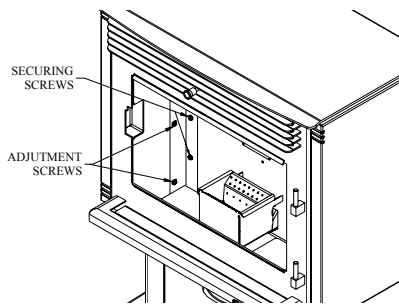
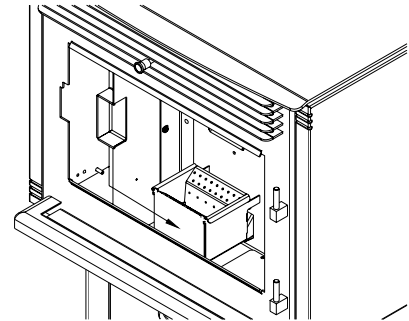
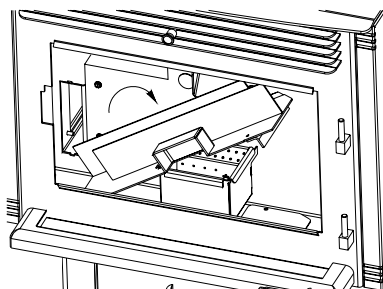

Figure 47
Figure 48
Figure 49
- c. **Chamber walls:** Periodically, you must vacuum the ashes that may have accumulated on the main walls of the combustion chamber. START BY REMOVING THE DECORATIVE MASONRY-LIKE PANELS, WHICH ARE SIMPLY HELD BY CLIPS. The use of a vacuum is necessary. There is also a cleaning outlet located behind the left side panel of the combustion chamber. Remove this panel using a screw driver. Loosen the adjustment screws then remove the securing screws(Figure 47). Slide the wall toward right(Figure 48), tilt it (Figure 49) then remove it from the combustion chamber. Scrape off ashes. You will notice a small rectangular cleaning outlet. Inspect behind this outlet (see Figure 50) Insert the vacuum tip through the cleaning outlet and clean thoroughly. REPEAT THIS OPERATION AT LEAST ONCE PER TON OF PELLETS BURNED UNTIL YOU ARE FAMILIAR WITH HOW ASHES ACCUMULATE WITH YOUR OPERATING PRACTICES.